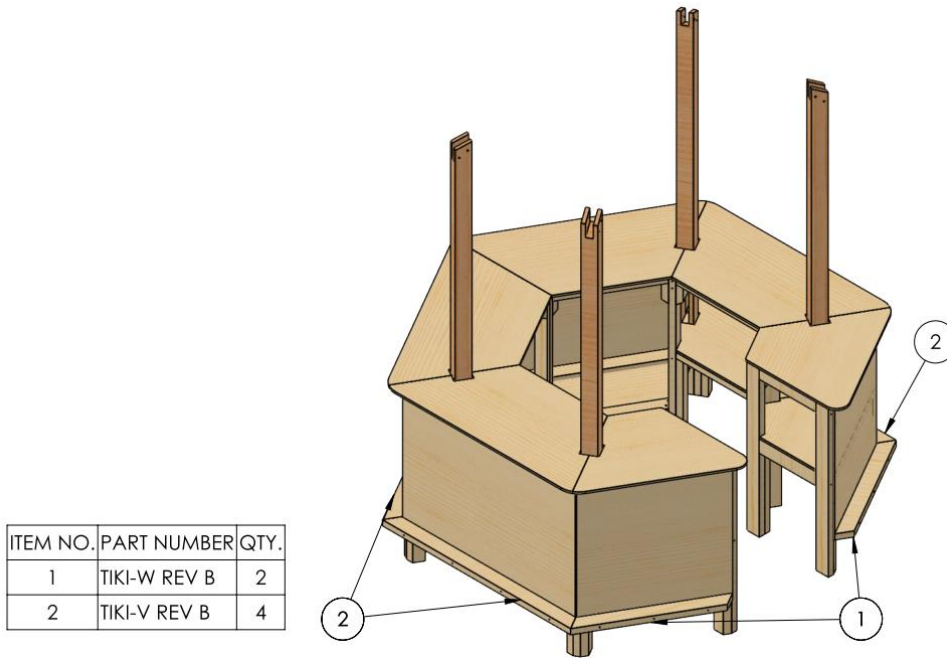

Figure 9
10) Add foot rest ledge as shown in Figure 9 using 6" screws(Bag #4).